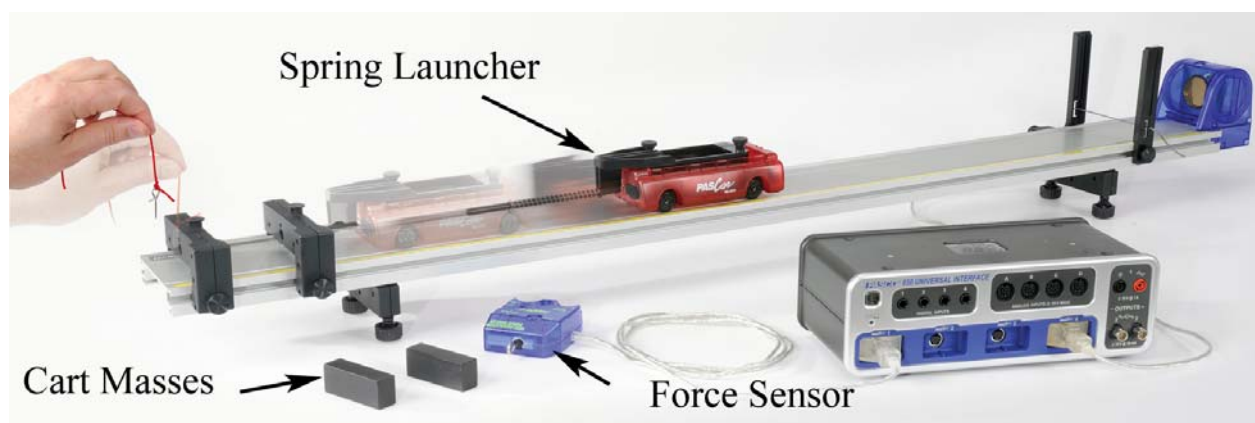
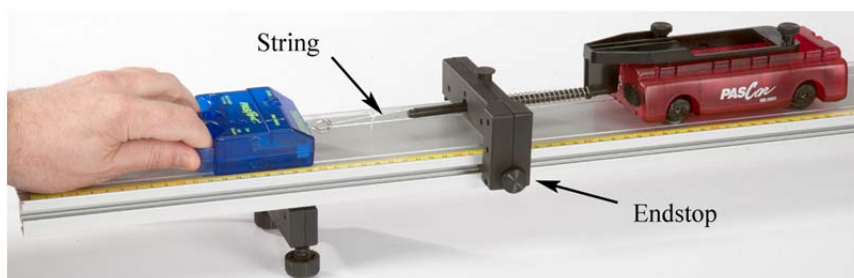

Figure 1: When the pin is pulled, the potential energy stored in the spring is released.
Figure 4: Finding the spring Constant
3. Figure 1 shows two endstops in use for later in the experiment. For now, you will only use one endstop as shown in Figure 4. Push the rod from the spring launcher through the hole in the endstop and tie a loop of string through the small hole in the end of the rod.
4. Plug the Force Sensor into the interface. With the sensor flat on the surface of the track, press the zero button to tare the sensor. Hook it onto the loop of string as shown in Figure 4.